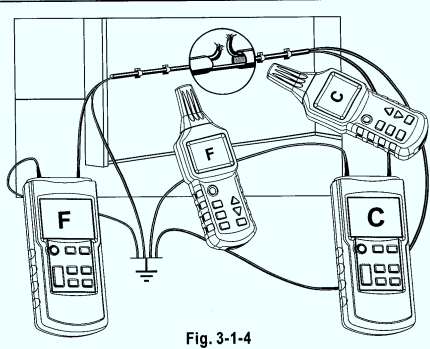

Fig. 3-1-4
- All lines not being used must be connected to the auxiliary ground as shown in Fig. 3-1-4.
- Connect both transmitters as shown in Fig. 3-1-4.
If the transmitters are connected in accordance with Fig. 3-1-4, the receiver indicates C on the left side of the line interruption. If the receiver goes beyond the interruption position towards the right, it will display F. If you are directly above the interruption, no line code is displayed, due to the overlapping of both transmitter signals.